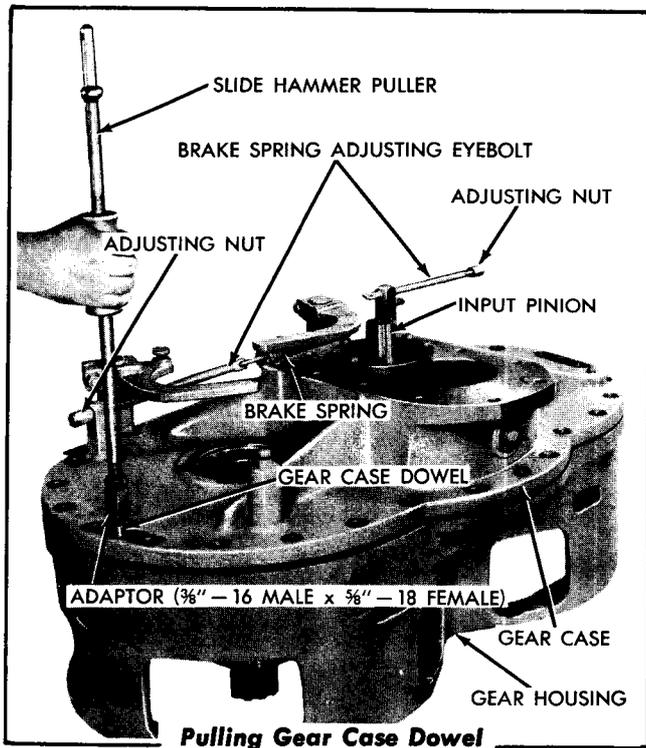
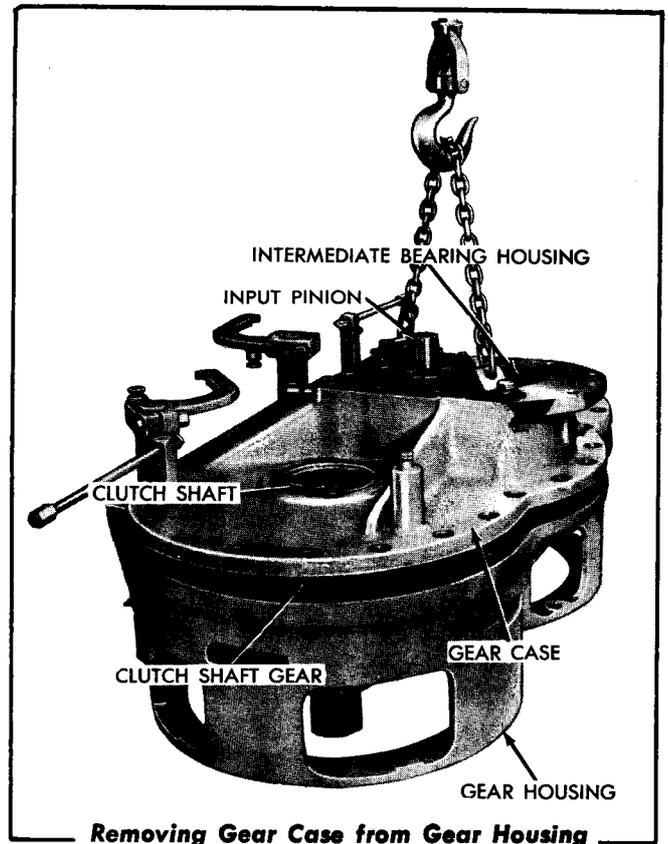

FIG. 32
FIG. 33
13. Loosen the adjusting nut on the end of each brake spring adjusting eye bolt (Fig. 32) and remove the two brake springs.
14. Remove the 28 capscrews attaching the gear case to the gear housing. Remove the 2 dowel retainer plates (Fig. 31). Using a slide hammer puller and adaptor, similar to the one shown in Fig. 32, pull the two gear case dowels.
15. Attach a chain to the gear case as shown in Fig. 33 and remove the gear case from the gear housing.
- d. Remove the capscrews attaching the gear case to the gear housing. Using a slide hammer puller and adaptor, similar to the one shown in Fig. 32, pull the two gear case dowels. Attach a chain to the gear case as shown in Fig. 33 and remove the gear case from the gear housing.